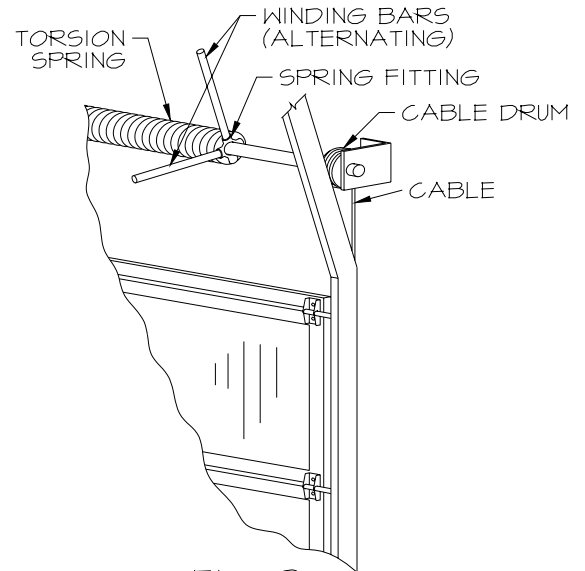

FIG. 3
- **Backwind spring** until tension is released (Figure 3).